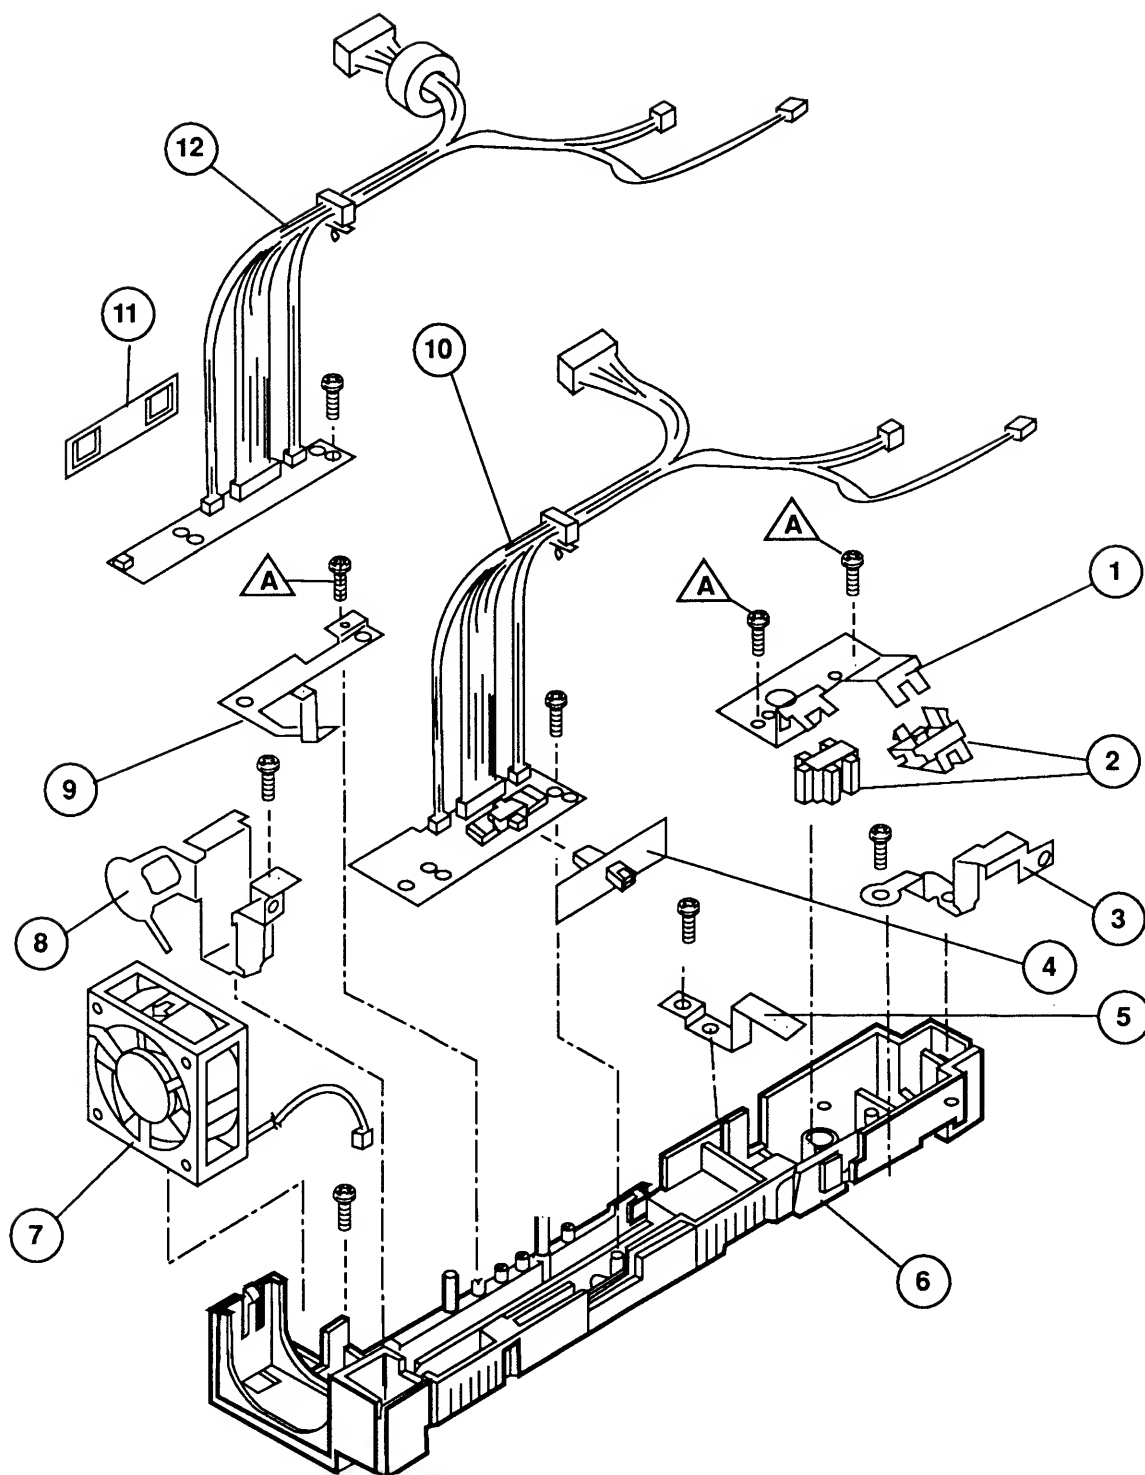

Figure 7
□ UPPER ENGINE ASSEMBLY (Figure 7)